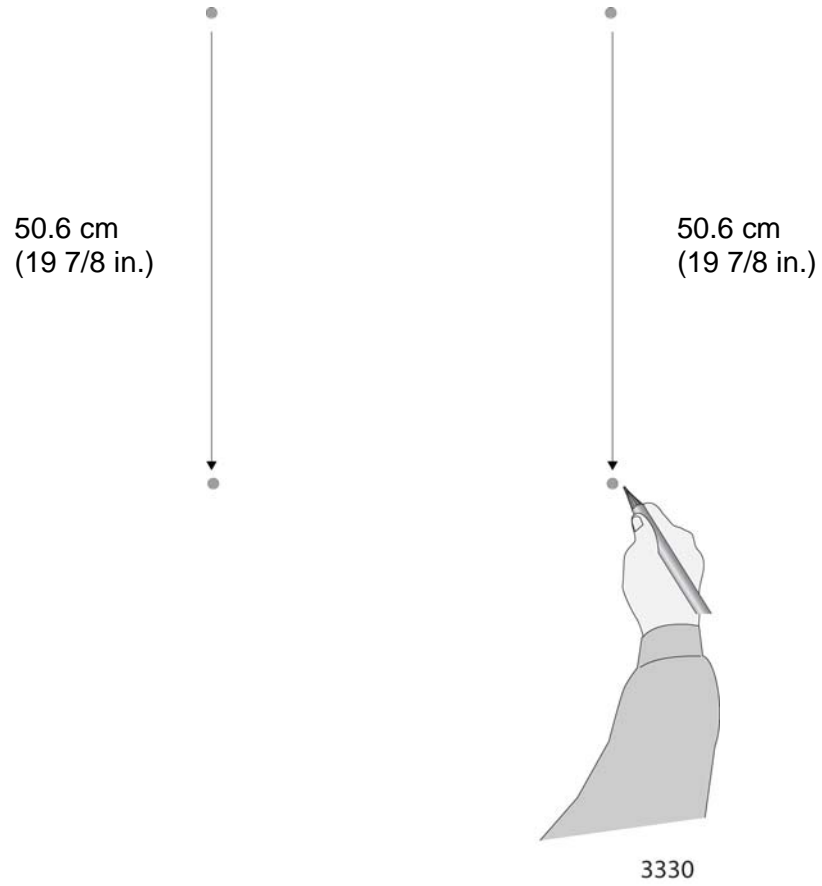

Figure 10. Marking the Screw Holes for the Bottom Bracket
3. Measure 50.6 cm (19 7/8 in.) vertically down from the hole marks you made in the previous step and mark the two screw holes for the bottom bracket. Refer to Figure 10 on page 28.